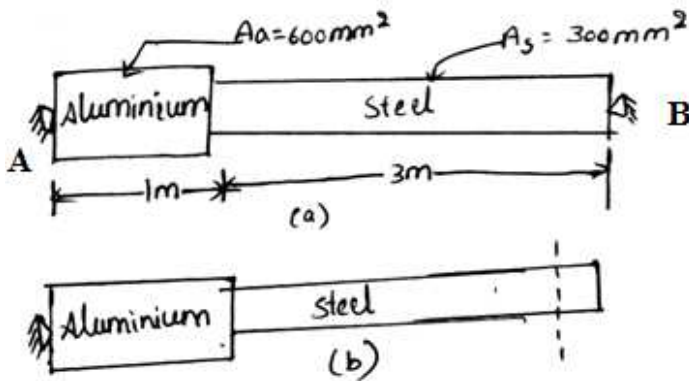

Fig. 3 (b)
- c. The state of stress at a point in a strained material is as shown in Fig. 3(c) determine;